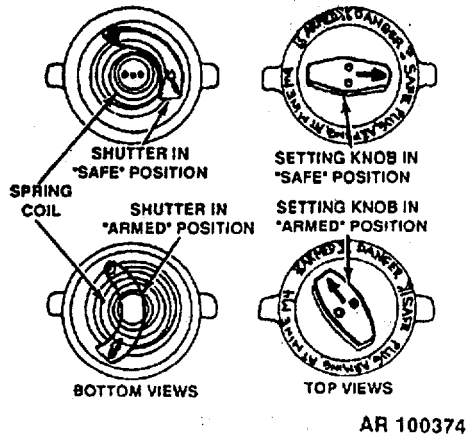

Figure 2-25. Setting knob in SAFE and ARMED positions.
- (12) Pick up arming plug M4 and turn setting knob to SAFE position (if not already set to SAFE position) (fig. 2-25).
- (13) For long-term emplacement, smear layer of silicone grease G-697 on threads, gasket, and shutter on underside of the arming plug.